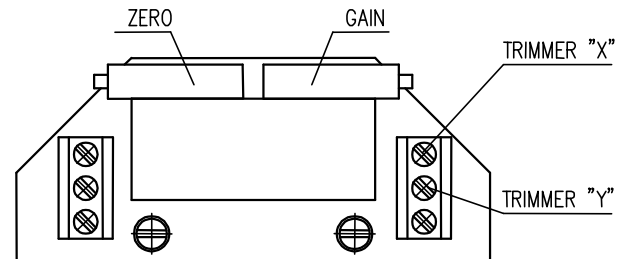

Fig. 5b
#### 4.4.2 EPV – 3-wire version (Fig. 5b,5c)
- Adjust the resistive transmitter according to the previous chapter. The resistance is to be metered on the terminals X-Y (Fig. 5b,5c). The used transmitter resistance is 2000  $\Omega$  or 100  $\Omega$ .
- Turn the adjusting trimmer ZERO (Fig. 5b,5c) to adjust the output current signal rate measured on the terminals 81-82 to 0 mA or 4mA.
- Turn the adjusting trimmer GAIN (Fig. 5b,5c) to adjust the output current signal rate measured on the terminals 81-82 to 20mA or 5 mA..